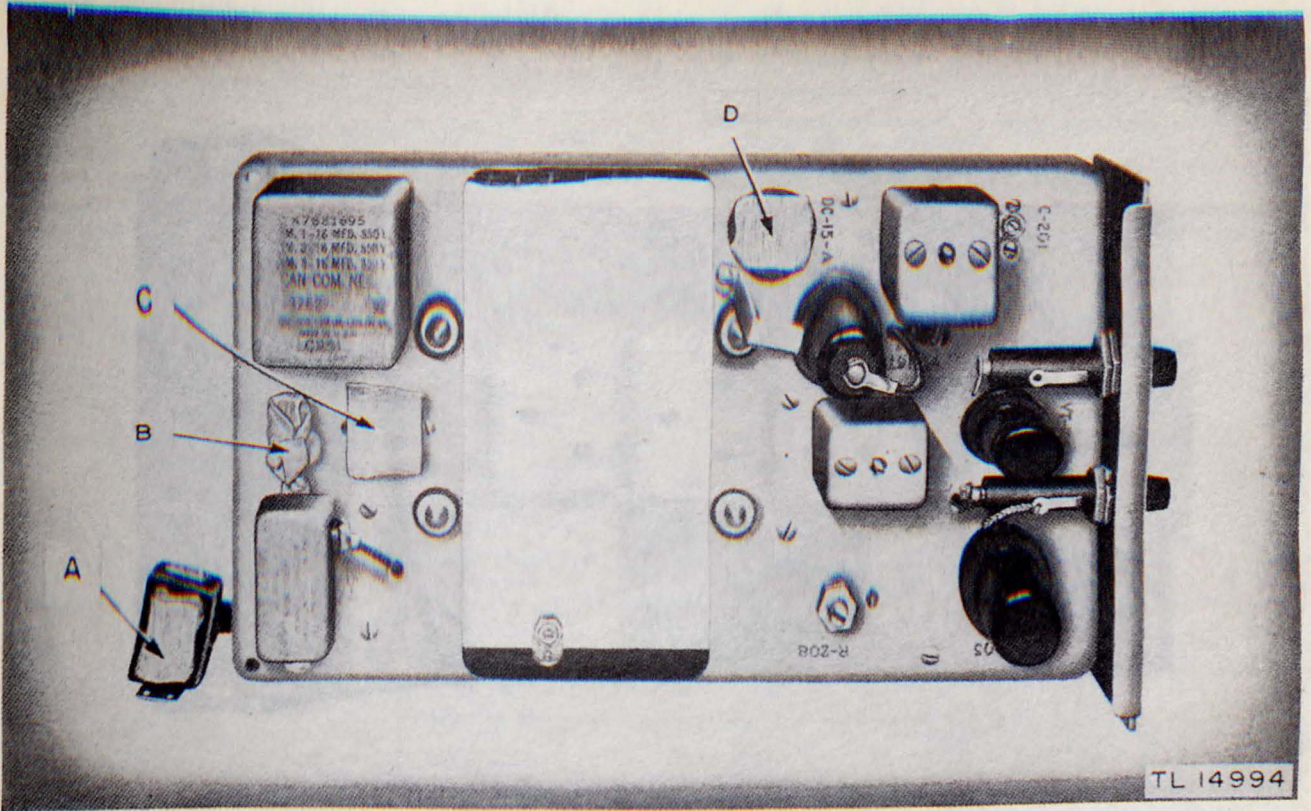

Figure 32. Radio Receiver BC-652-A, crystal-frequency calibrator chassis masked for moistureproofing and fungiproofing.
(1) Mask the prongs of power plug, item A, figure 32.
(2) Mask terminal posts, item B, figure 32.
(3) Mask receptacle for dynamotor plug, item C, figure 32.
(4) Mask crystal socket, item D, figure 32.